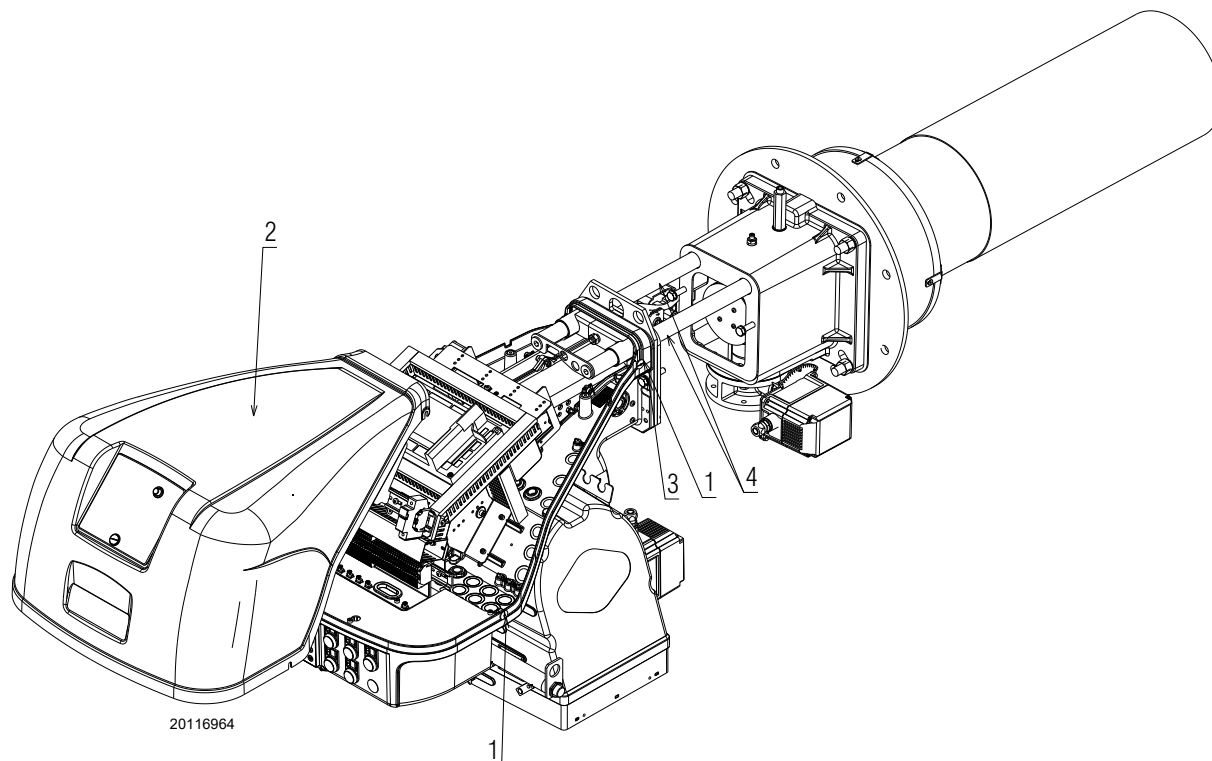

Fig. 33
- loosen the 4 screws 1) (Fig. 33) and remove the cover 2);